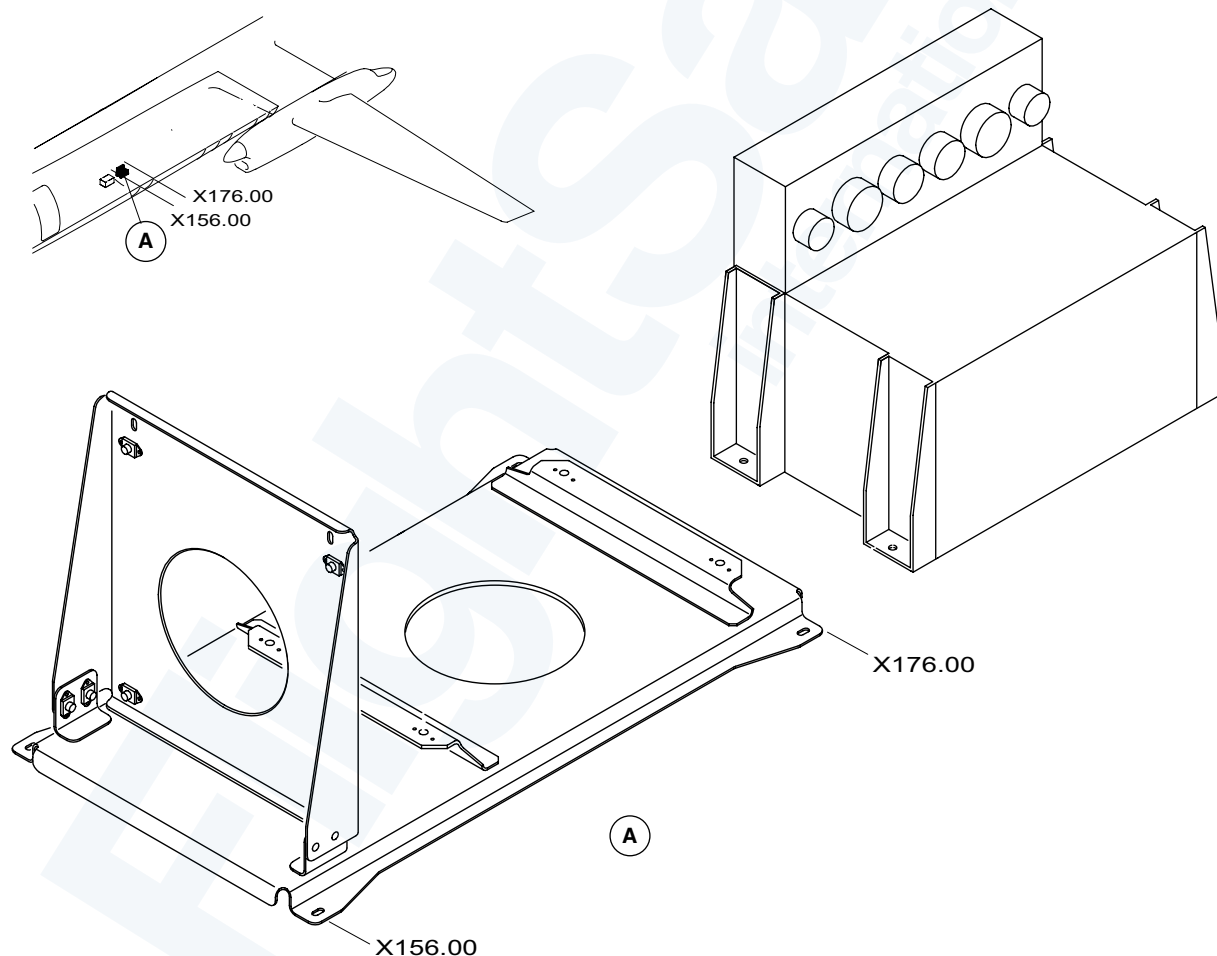

Figure 36-28. ECS Electronic Control Unit (ECU)
- Figure 36-28. ECS Electronic Control Unit (ECU).